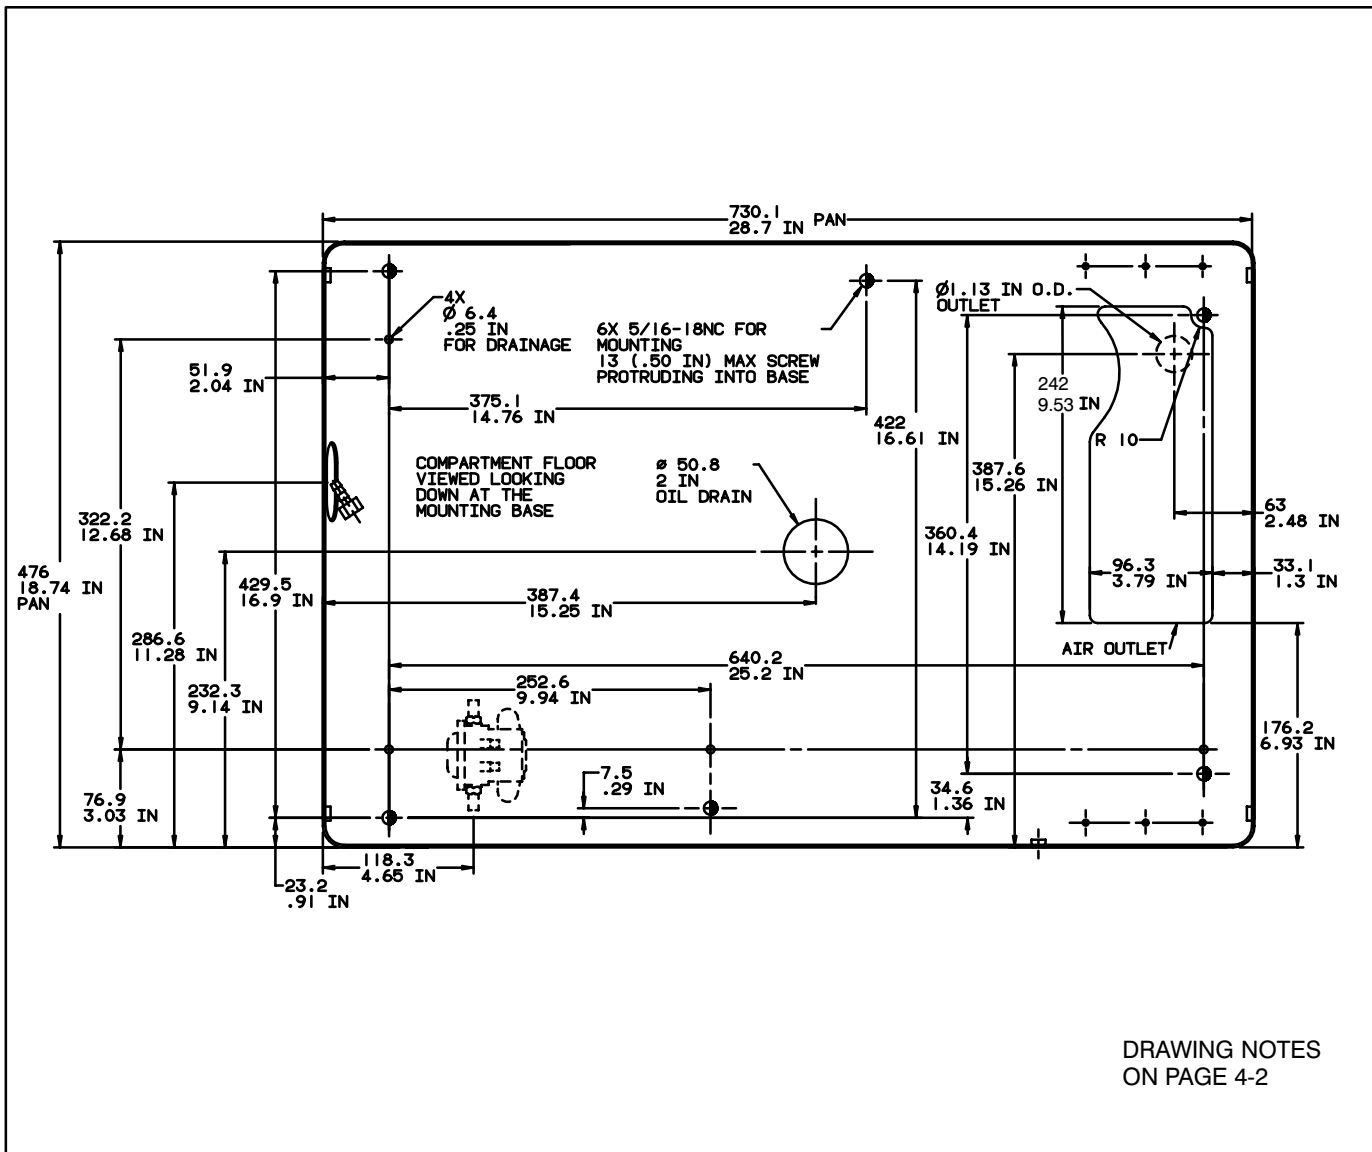

FIGURE 4-2. COMPARTMENT FLOOR PLAN (TOP VIEW)
2. Use template 539-1546 to cut the opening in the compartment floor for the oil drain and air outlet (refer to Figure 4-2).
4. Construct a compartment floor that will prevent oil, fuel or water accumulation. Provide openings in the compartment floor according to the Compartment Floor Plan, Figure 4-2.